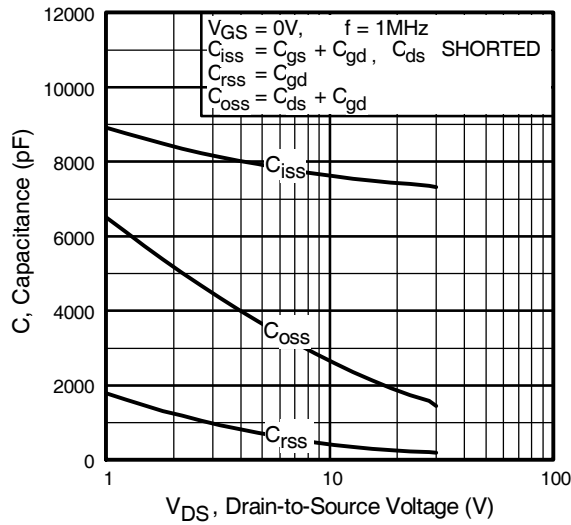

Fig 5. Typical Capacitance Vs. Drain-to-Source Voltage
| C_{rss} | Reverse Transfer Capacitance | — | 240 | — | | $f = 1.0\text{MHz}$, See Fig. 5 ⑦ |